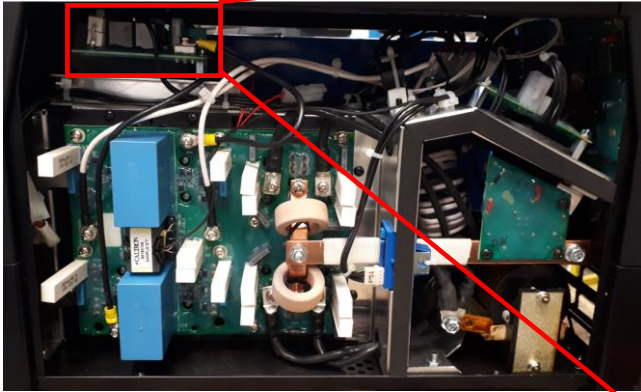

Figure 21
3. Locate the Preload Board. See **Figure 21**